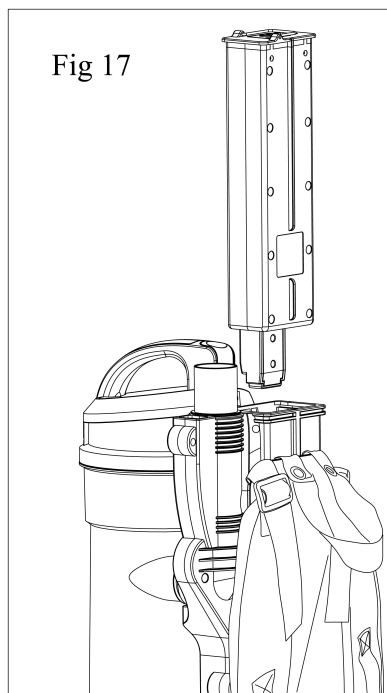

Fig 17
2. Unlock the battery pack from the vacuum by pulling up on the metal battery hook located on the top of the battery, and take the battery pack out from the vacuum. (Fig 17)